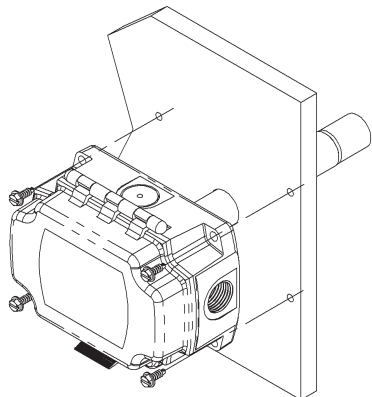

Fig 9. Duct RH & T BAPI-Box (-BB) Installation, NEMA-4
3. Mark and Drill a 1 inch hole into the duct for the probe as shown in Figure 9,10,11 and 12.